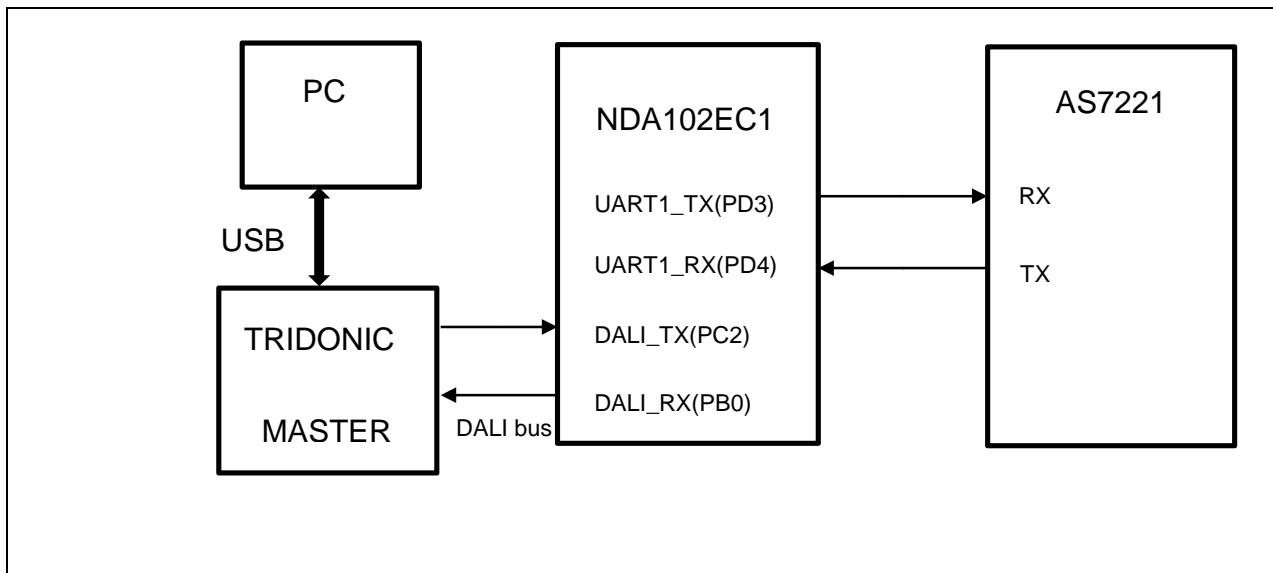

Figure 3-1 Connection Diagram
- Pin Connect is shown in Figure 3-1 Connection .